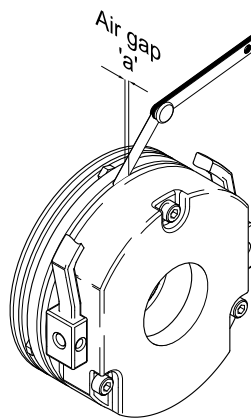

Figure 51 – Checking Hoist Brake Air Gap
The air gap 'a' (between the stator (5) and the armature plate (1)) should be checked in at least three positions around the circumference of the brake using non-magnetic feeler gauges (see Figure 51). The air gap should not exceed the maximum air gap figure given in the above table.